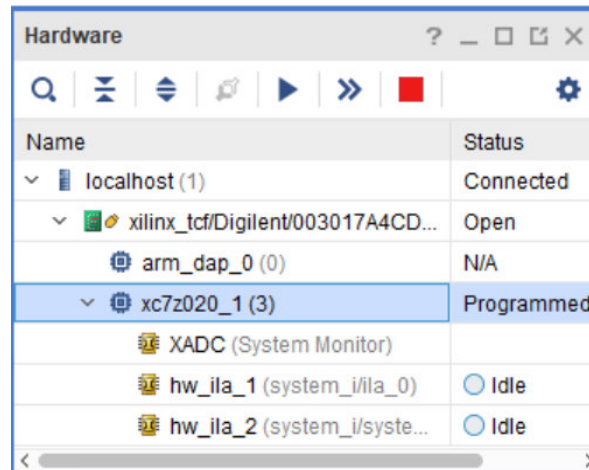

Figure 11: Hardware Session status
8. The hardware session status window also opens (Figure 11) showing that the FPGA is programmed (we did it in SDK).